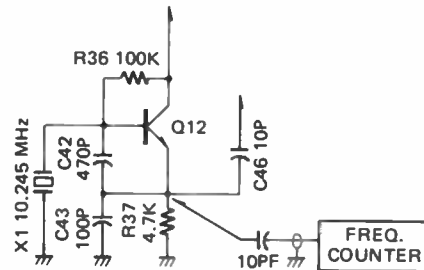

FIGURE 2.
- Step 1: Connect Frequency Counter through a 10pF capacitor to Q12 Emitter circuit. (See Figure 2)